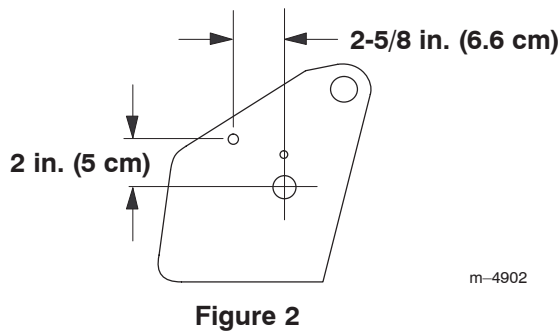

Figure 2
1. On the both sides of the frame, mark hole locations 2-5/8 in. (6.6 cm.) behind and 2 in. (5 cm) above the loader arm pivot centers (Fig. 2).